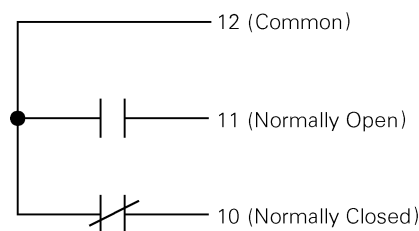

Figure 23: Bell Alarm with Lockout connections on the right terminal block. The contacts are shown in the reset state.
In addition, the Bell Alarm with Lockout provides normally open (NO) and normally closed (NC) alarm outputs available at the terminal block on the right side of the switch, as illustrated in Figure 23. These outputs are returned to their normal state when the Bell Alarm with Lockout yellow reset button is firmly pressed.